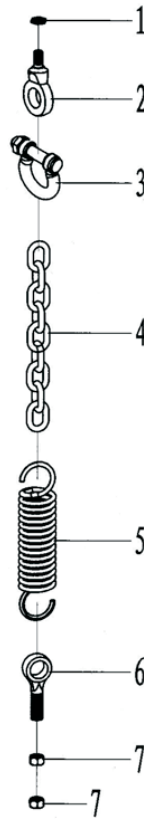

Fig.28
7.25 Front spring assembly(Fig.28,Table28)